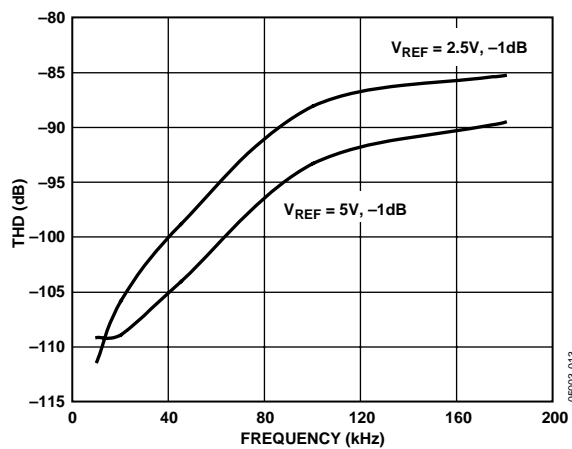

Figure 13. THD vs. Frequency
- For ac applications, the driver needs to have a THD performance suitable to that of the AD7694. Figure 13 gives the THD vs. frequency that the driver should exceed.